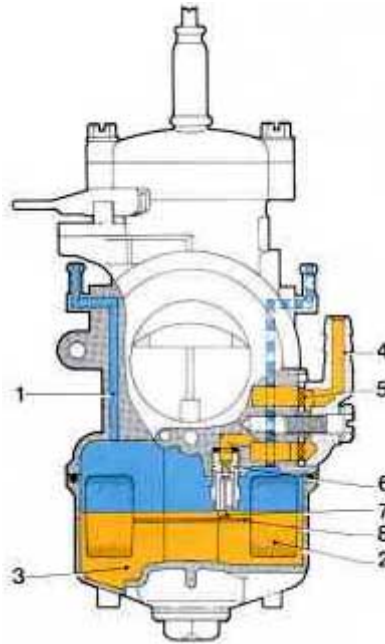

fig.9
It is therefore advisable to use fuel taps and pipes of adequately large size. Further, check that fuel filter (5) in the union banjo (4) of the Carburetor is clean. Fuel from the tank supplies the Carburetor (fig.9) through a valve in which a float-controlled needle operates (2).